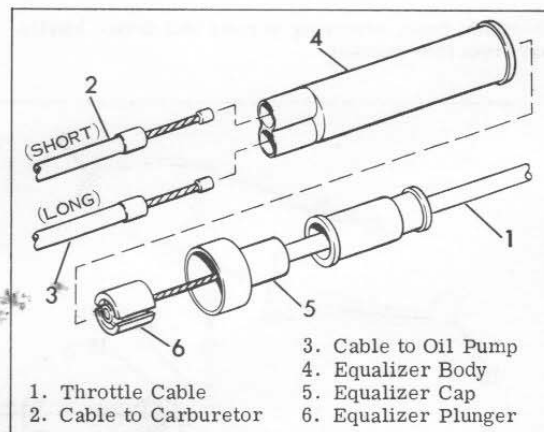

Figure 2.20. Throttle Cable Equalizer
Referring to Figure 2.20 pull equalizer cap (5) off equalizer body (4). Slide apart until equalizer plunger (6) is revealed. Slip wire ferrules of both carburetor and oil pump cables out of slots in plunger (6). This will free both of these cables so they can be pulled out of two holes in equalizer body (4).